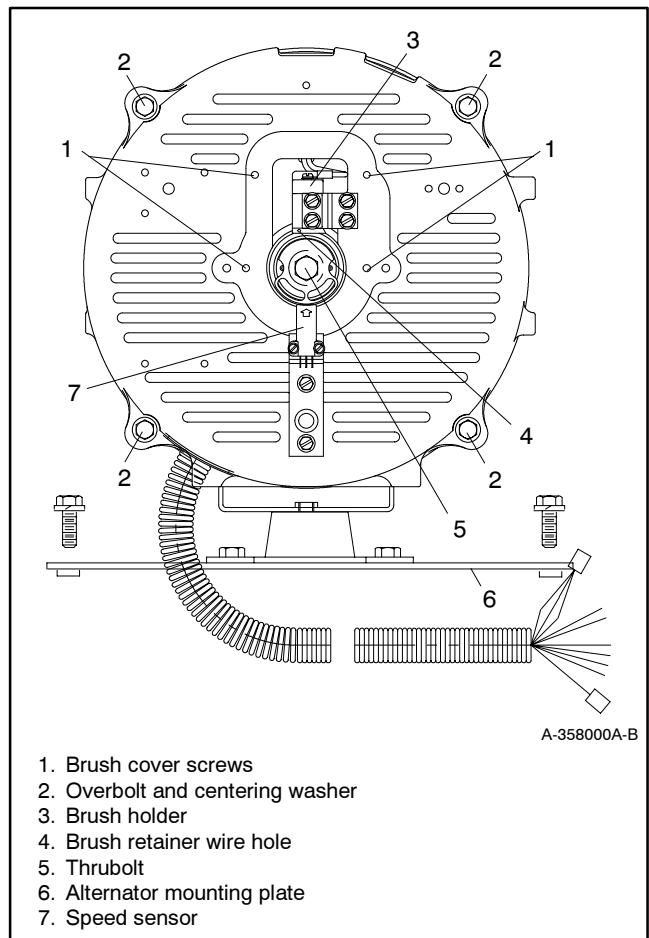

Figure 8-7 Alternator End Bracket
- c. Remove the screws securing the brush cover to the alternator end bracket. See Figure 8-7.
- e. Raise the brushes in the brush holder and insert a small piece of wire into the brush holder retainer wire hole. See Figure 8-7 and Figure 6-13.
- f. Remove the alternator overbolts and centering washers. See Figure 8-7.
- a. Remove the brush holder from the end bracket. See Figure 8-7.